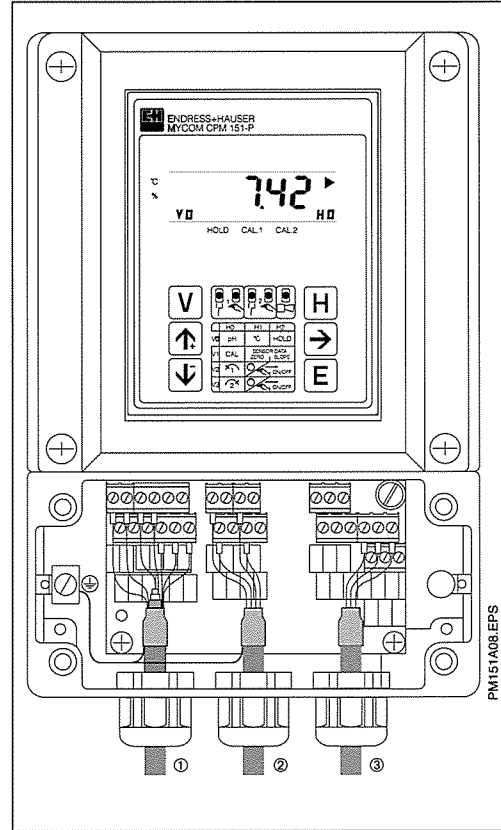

Fig. 4.14: Mycom CPM 151-P with connections in separate terminal connection compartment
The electrical cables from the sensors and the signal lines are connected to the terminal strip in the separate connection compartment (see fig. 4.14).
- Introduce the connecting cables through the Pg cable glands (see fig. 4.14).